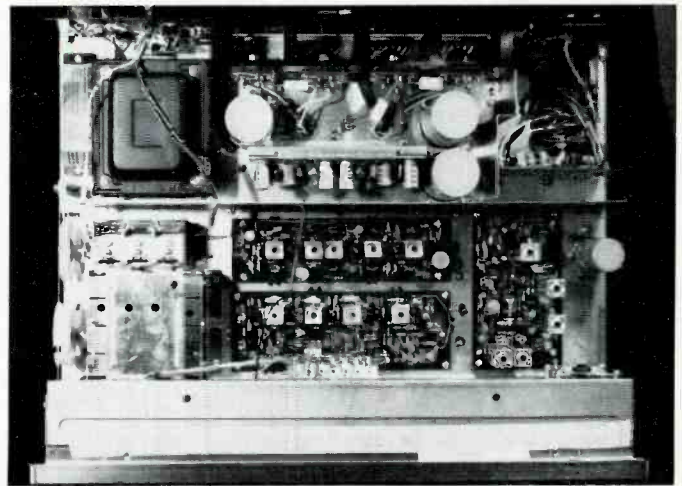

Fig. 1—Showing top view.
Removal of the metal housing and bottom cover of the Sansui 2000A disclosed a well-organized layout of ten modular p.c. boards plus a fully-sealed (except for the AM variable capacitor gangs) front-end section (see Fig. 1). The RF stage of the FM front-end is an FET, while the remaining three devices in this section are bi-polar transistors. The i.f. amplifiers (FM) use four IC devices, each of which contains the equivalent of five transistors. In addition, this section contains a three-transistor-plus-three-diode mute circuit so designed as to afford virtually "no transition" distortion at signal strengths near the mute threshold setting. A completely separate AM section is used, consisting of four more transistors and three diodes and utilizing no parts in common with the FM i.f. section. In all, the active device complement of this new receiver consists of 45 bi-polar devices, 1 FET, 4 IC's, 28 diodes and 2 Zener control diodes. Both high-level and low-level signals are fed through the preamplifier audio stages. While normally we prefer to see the high level inputs by-pass the preamp stages (for better S/N and hum), we must admit that in this instance, high-level input hum was quite acceptable, measuring in excess of the 75 dB claimed. Quality of components used throughout the receiver seemed excellent, with over-rated parts used particularly in capacitors and power transformer, which was cool after nearly four hours of high-power testing. The output coupling capacitors in this "single ended push-pull" amplifier circuit are 2200 μ F, 75 volt units, for example. The total supply voltage is 65 volts and only half of that voltage (approximately 32.5 volts) appears across the output capacitor, since it is at the mid-point of the two series-connected transistors. Still, a 75-volt electrolytic capacitor is used so that in the unlikely event of a total short of the upper transistor (TR-6), the full voltage then appearing across C-1 would still not be sufficient to damage the output capacitor. The reactance of a 2200 μ F capacitor at 20 Hz is a little under 4 ohms, by the way, and at 100 Hz it is less than 0.75 ohms. Thus above 100 Hz, the damping factor of the